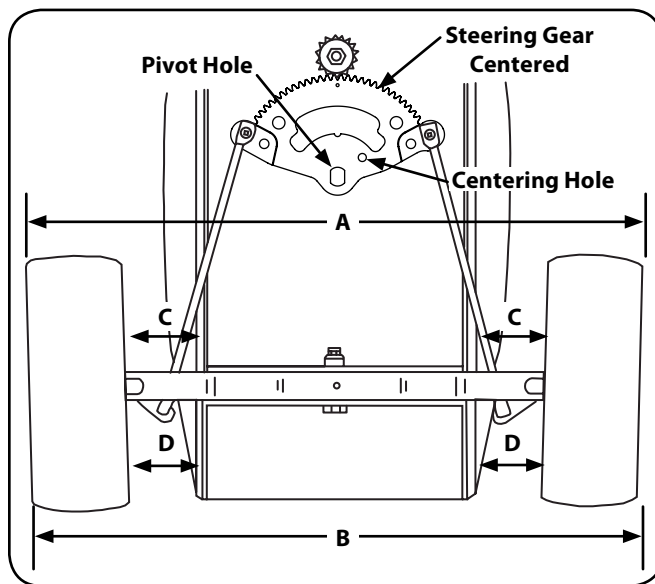

Figure 6-9
The front wheels should toe-in approximately $\frac{1}{8}$ to $\frac{1}{4}$ " as measured across dimensions A and B. See Figure 6-9.
1. Check the steering gear to ensure it is in the centered position. The hole in the steering segment gear will align with the hole in the steering housing (See Figure 6-9).
3. Measure the distance between the bottom edges of the tractor frame channels and the marks on the front of each wheel (See measurement D in Figure 6-9). These two measurements should be equal.
4. Measure the distance between the frame and the marks on the rear of each front wheel (See measurement C in Figure 6-9). Measurement D should be approximately $\frac{1}{16}$ - to $\frac{1}{8}$ -inch less than measurement C on each side of the tractor.